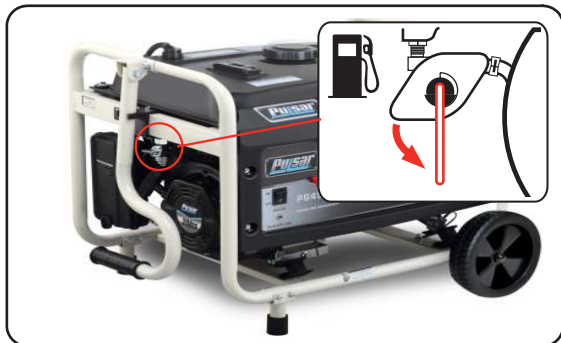

Fig 7
- Turn fuel valve to the “ON” position. (See fig 7)